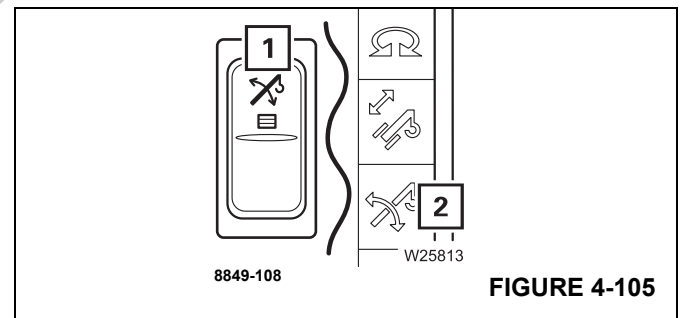

FIGURE 4-105
- Press the button on the right hand armrest (1), (Figure 4-105) once.
- Symbol (2) will be green if the lifting/lowering mechanism is switched on.